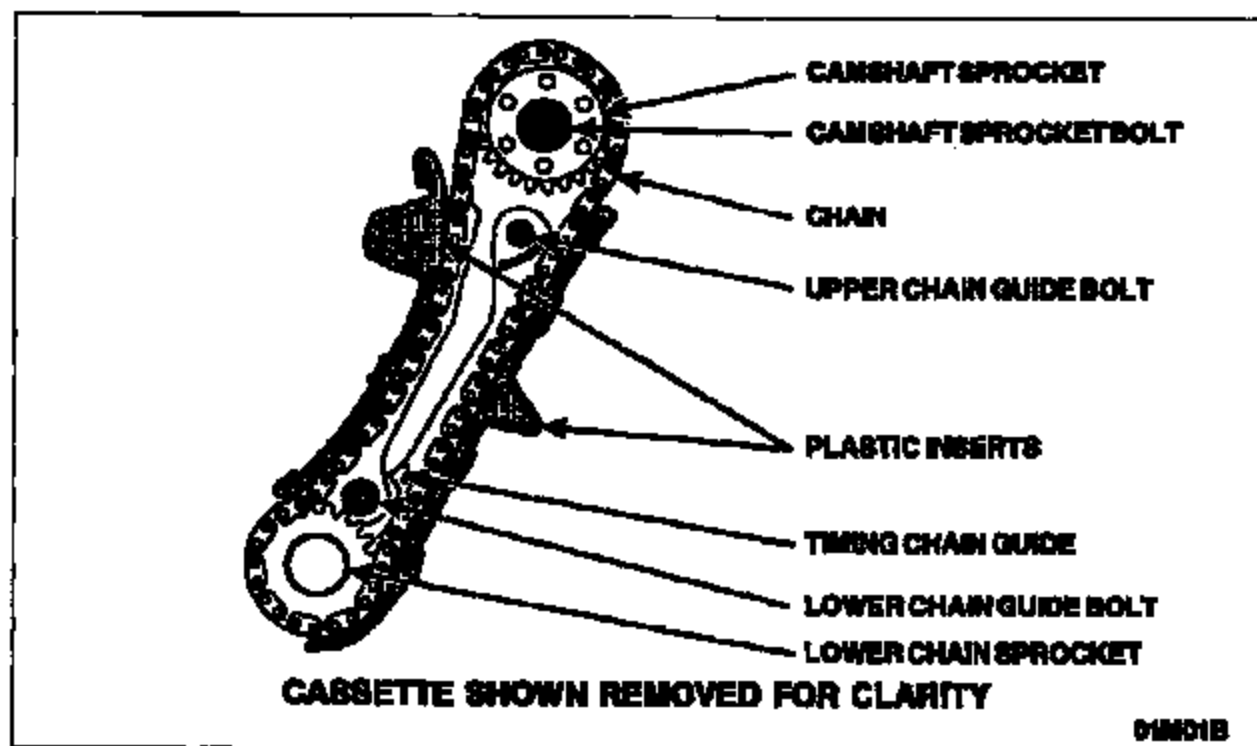

FIGURE 1
5. Inspect the LH camshaft cassette for damage to the plastic inserts of the chain guide; look for any cracks, broken or missing pieces. See Figure 1.